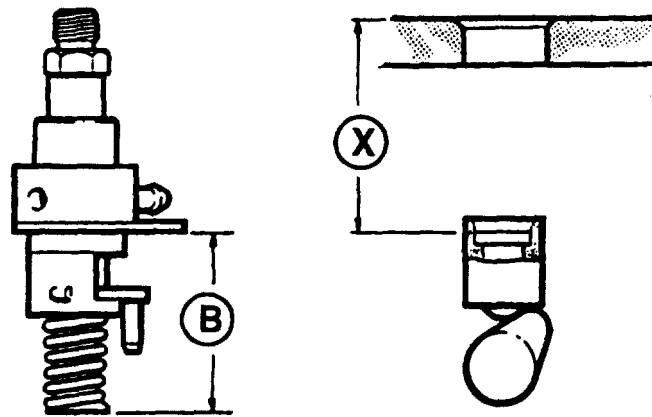

FIGURE 3-11. FUEL INJECTOR Pump Dimensions
- m. Using a depth gage, measure distance (X) from top face of crankcase to top of fuel pump tappet cap, refer to FIGURE 3-11. Subtract dimension (X) from dimension (B) 2.02 in. (51.196 mm) to obtain required thickness of shim pack to be installed between fuel injection pump plate and crankcase.